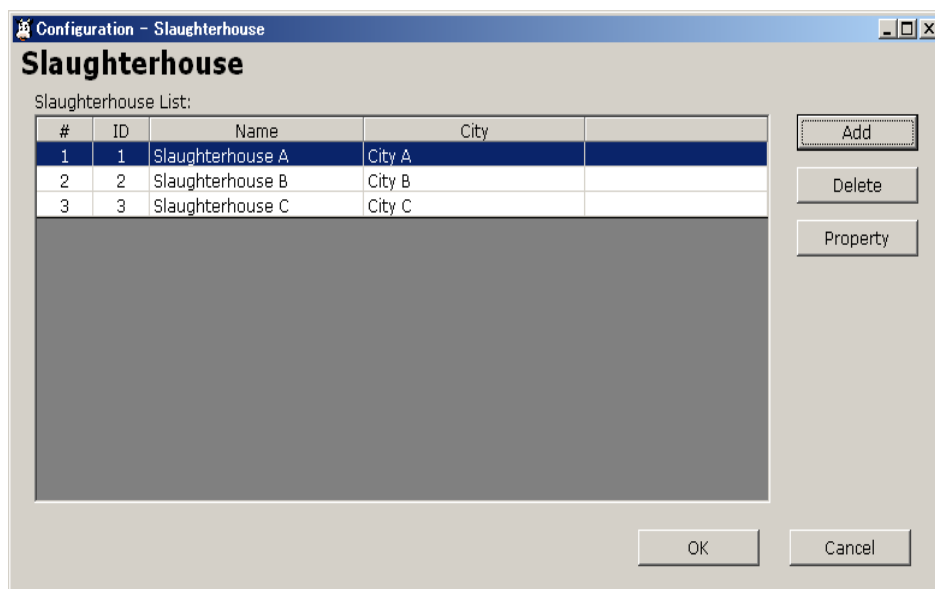

Fig. 11.2-1 : Slaughterhouses list
- (1) Click on “Slaughterhouse” in the Configuration menu. The ‘Slaughterhouse’ screen is opened (Fig. 11.2-1) and the slaughterhouses already defined are listed.